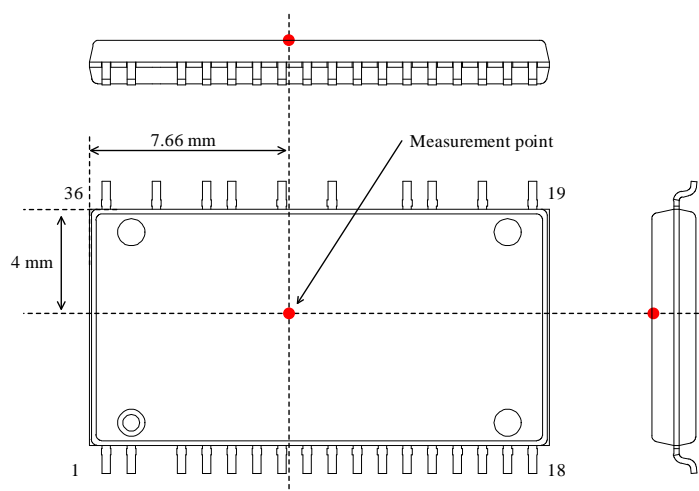

Figure 3-1. Case Temperature Measurement Point
(1) Refers to a case temperature at the measurement point described in Figure 3-1.